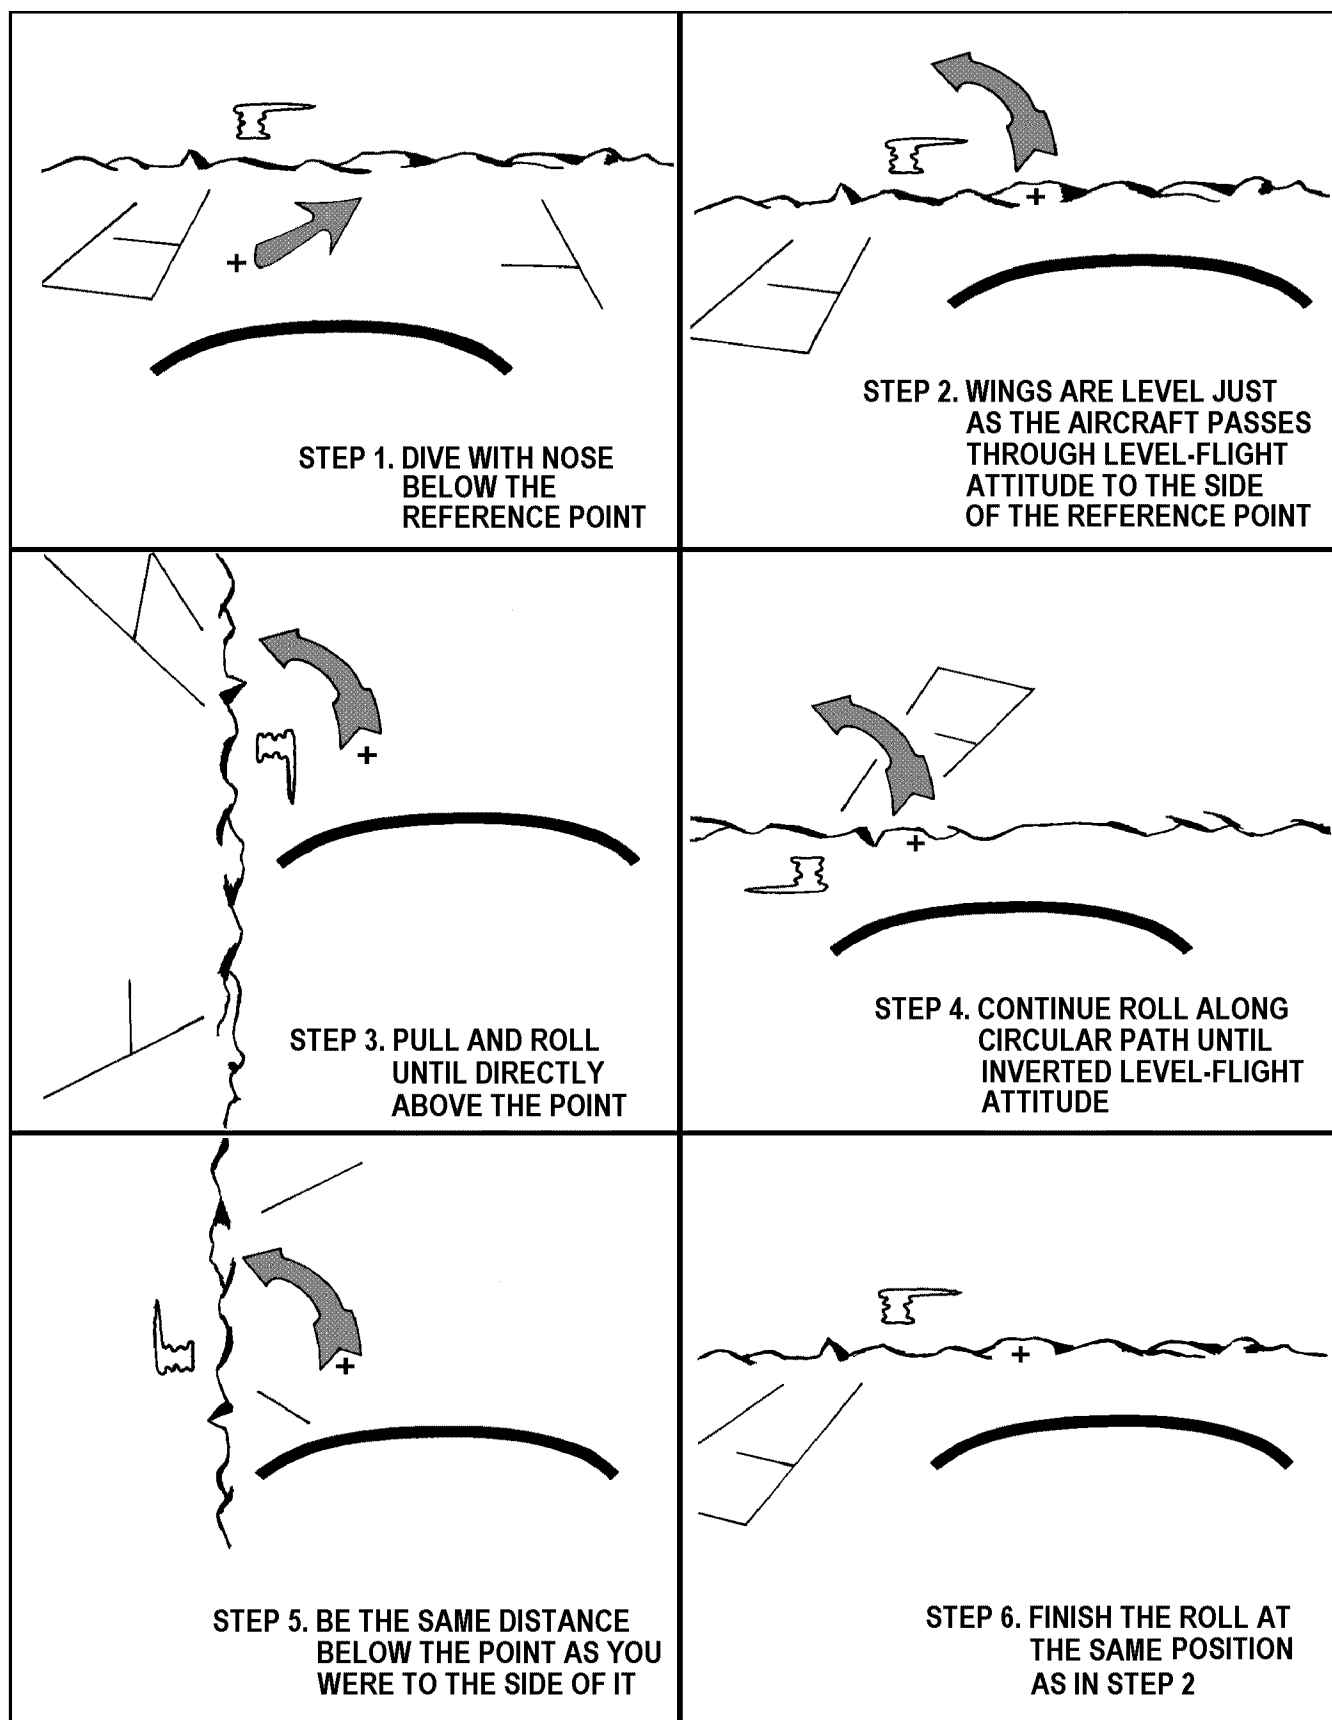

Figure 5.6. Barrel Roll.
**5.19. Barrel Roll.** A barrel roll is a coordinated roll in which the nose of the aircraft describes a circle around a point on the horizon (figure 5.6). Maintain definite seat pressure throughout the roll. Practice the barrel roll in both directions. There is little or no net loss or gain of altitude from the maneuver.